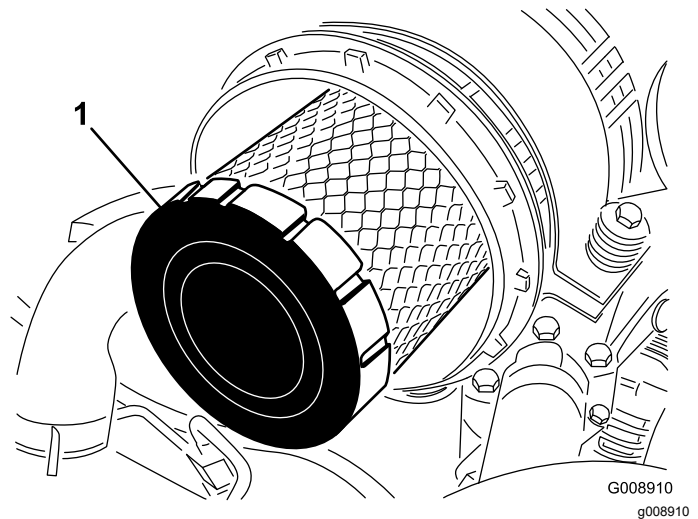

Figure 91
4. Remove the primary filter (Figure 91).